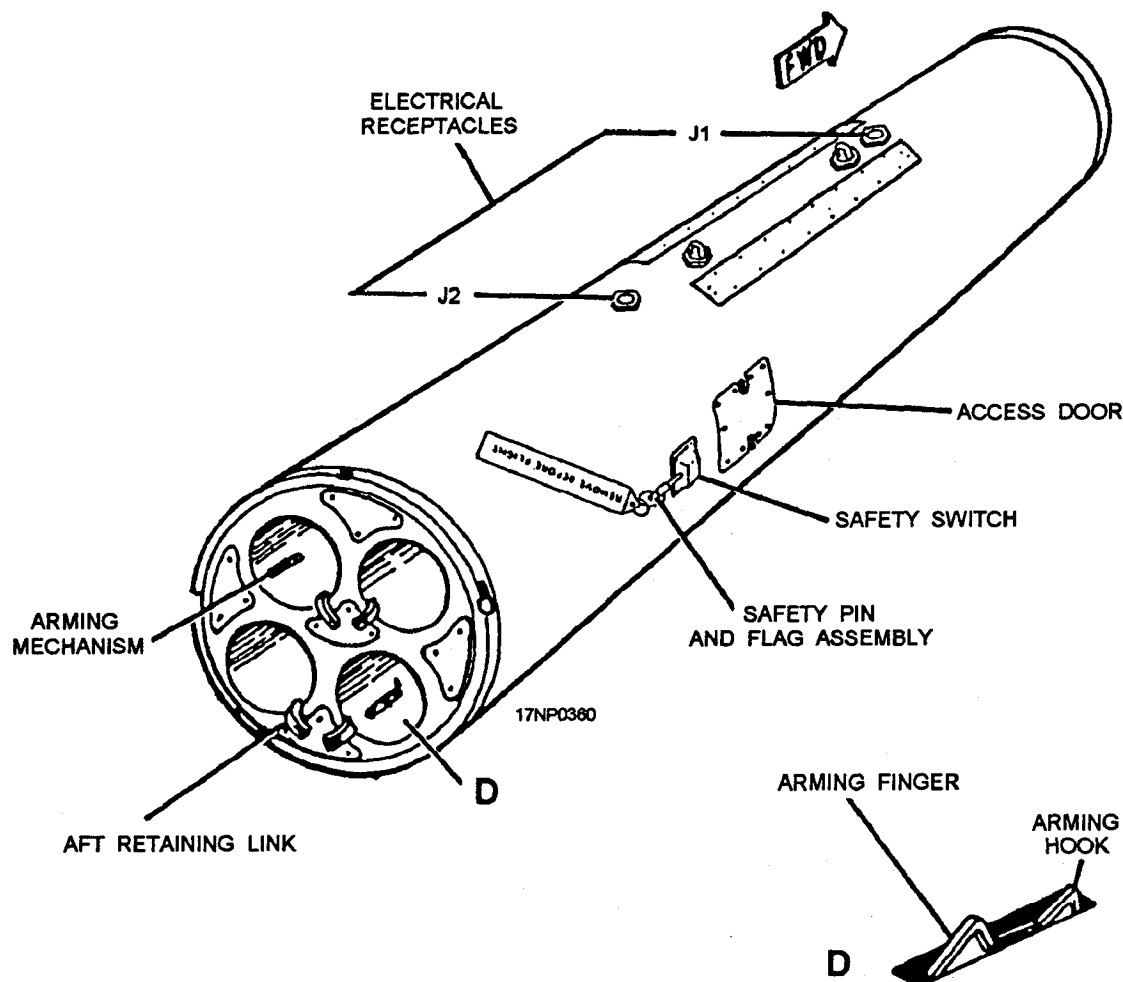

Figure 13-31.—SUU-25F/A.
1. Safety pin and flag installed in safety switch (fig. 13-31).